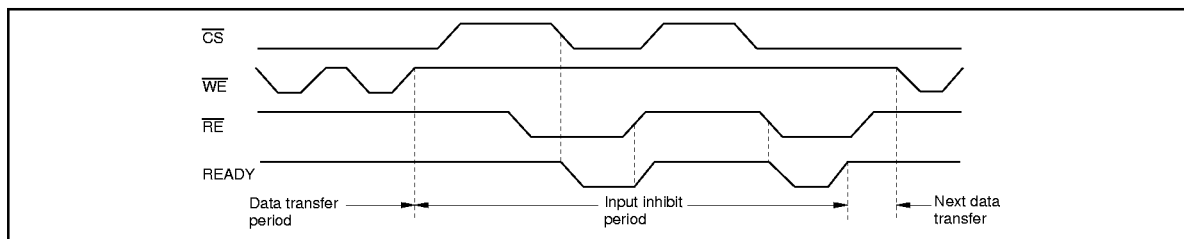

Figure 15 $\overline{READY}$ Output Timing (When It Is Made Available by $\overline{CS}$ and $\overline{RE}$)
- b. READY is made available by $\overline{\text{CS}}$ and $\overline{\text{RE}}$ (Figure 15).